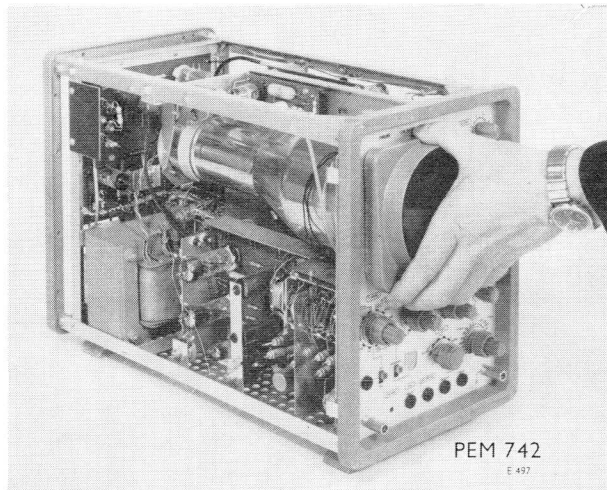

Fig. 7. Removing the protective cap and the measuring lattice
1. Grip the protective cap as shown in Fig. 7 and pull back the lower part.